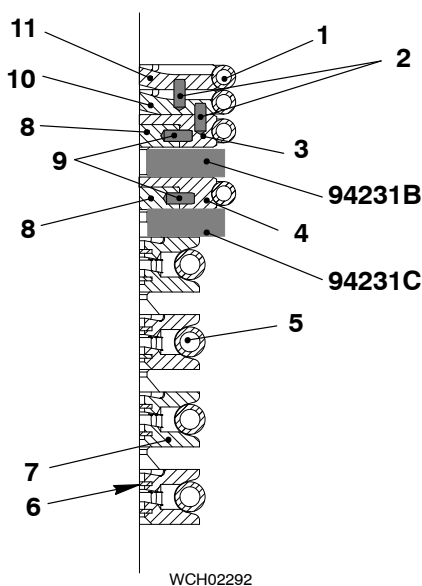

Fig. 5
- 5) Put the next three parts of the ring support (7) and the scraper rings (6) on the distance piece. Make sure that there is an equal distance between the three parts.
- 6) Use the assembly tool (94233) to attach the tension spring (8) to the ring support (7).
- 8) Do step 4) to step 7) again until the four ring supports (7) are attached to the piston rod (5).
- 9) Put the two parts of the distance piece (94231C, 11.0 mm height) on the top ring support (7).
Note: One segment of the gaskets (3, 4, and 8, Fig. 5) has two holes for the horizontal spring dowel pins (9). The other three segments have only one hole. On the top of one segment of the gasket (3) there is one hole for a vertical spring dowel pin (2).
- 14) Put the two parts of the distance piece (94231B, Fig. 5 (12.0 mm height) on the gaskets (4, 8).
- 16) Make sure that all horizontal spring dowel pins (9) and the vertical spring dowel pins (2) are installed.